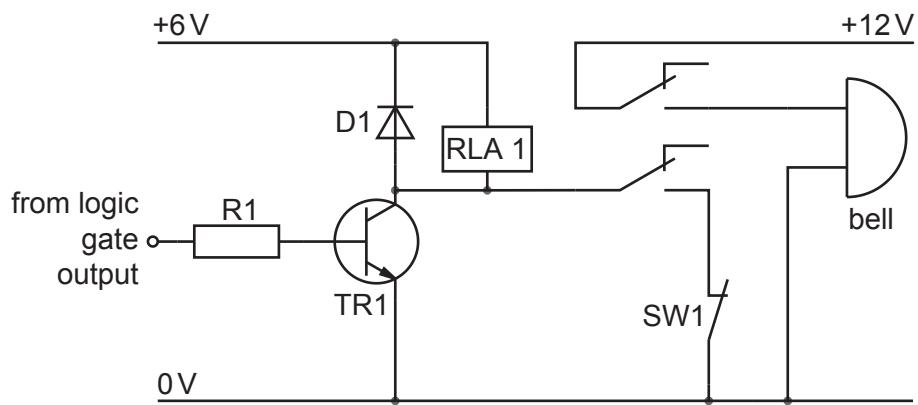

Fig. 12.5
- (ii) Fig. 12.5 shows the latched relay circuit.